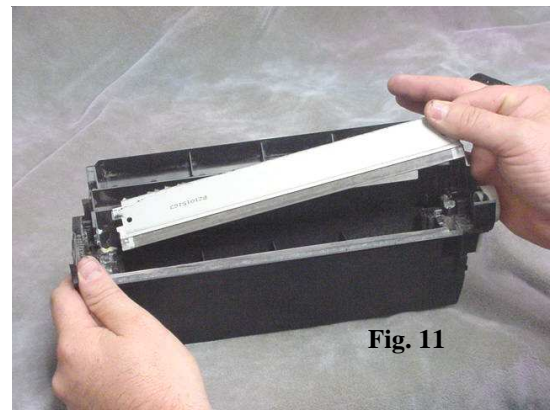

Fig. 11
11. Remove the wiper blade and thoroughly clean the waste bin with compressed air or vacuum. (Fig.11)